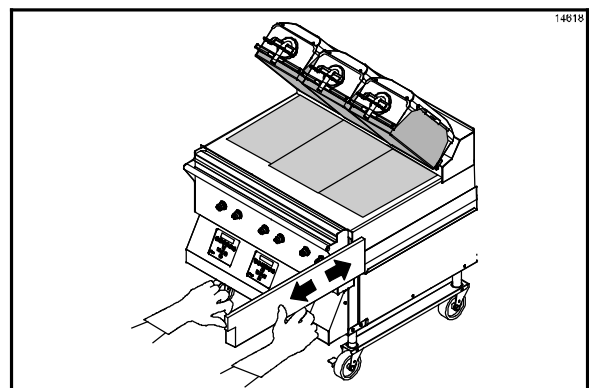

Figure 38
7. Remove, empty, and reinstall the grease pans. (See Figure 38.)